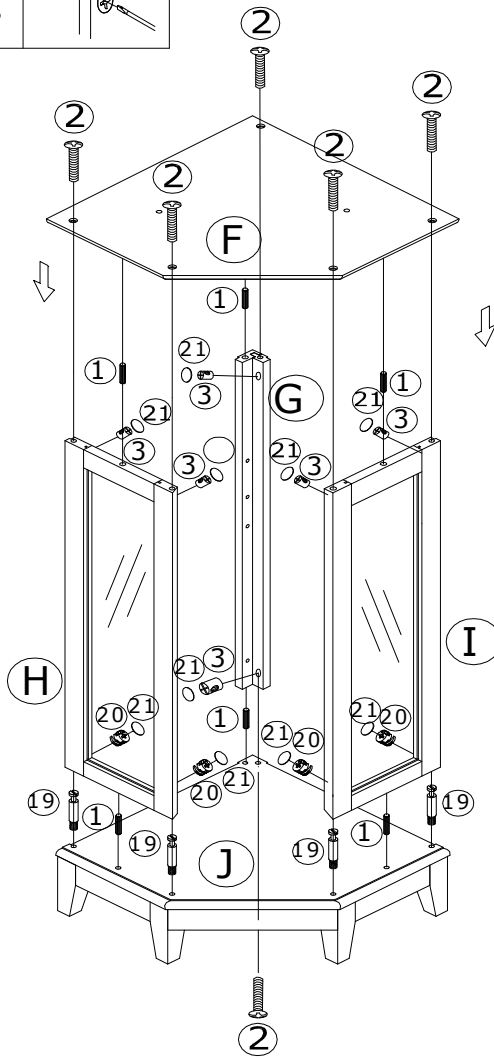

Figure 6
Insert cam-locks (20) into the bottom side holes on parts (H, I, and G) with slot for screwdriver facing outward. Rotate cam-locks (20) clockwise to secure cam-bolts (19) as shown in figure 6. Insert nut (3) into the bottom side hole on lower back rail (G) with grooves for screwdriver facing outward. Insert large machine screw (2) through the bottom of base (J) and into the corresponding hole on lower back rail (G). Tighten screw (2) with screwdriver.